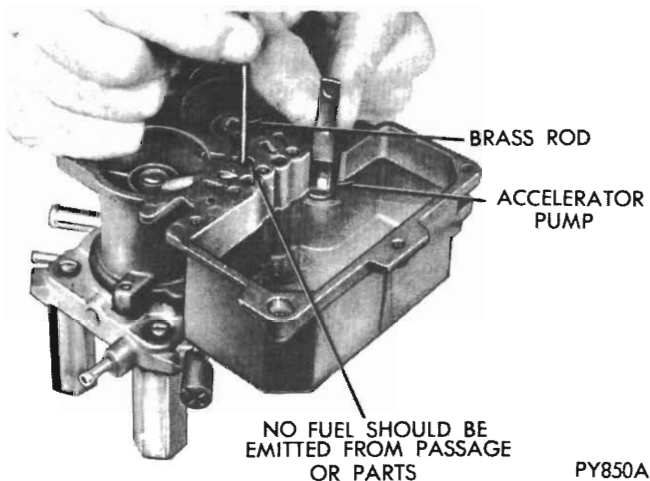

Fig. 17 – Testing accelerator pump discharge check needle
(3) Pour clean gasoline into fuel bowl, approximately 1 inch deep. Slide accelerator pump plunger into cylinder. Raise plunger and press down lightly on plunger stem to expell all air from pump passage.
(4) Using a small clean brass rod, hold discharge check needle down on its seat. Again raise plunger and press downward. No fuel should be emitted from pump discharge passage (Fig. 17).